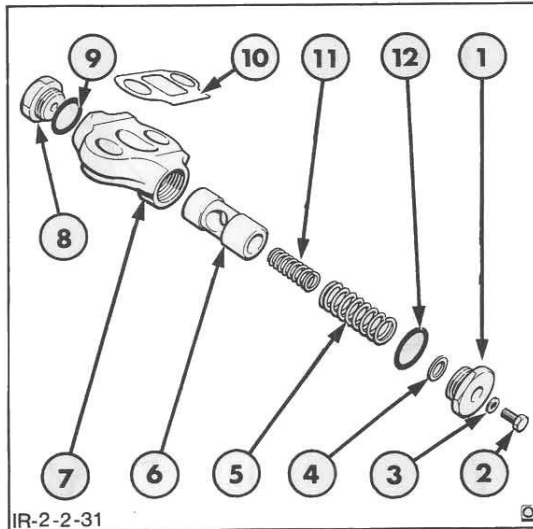

Figure 32
17. Re-assemble the advance device as follows, referring to Figures 32 and 33 for component identification.